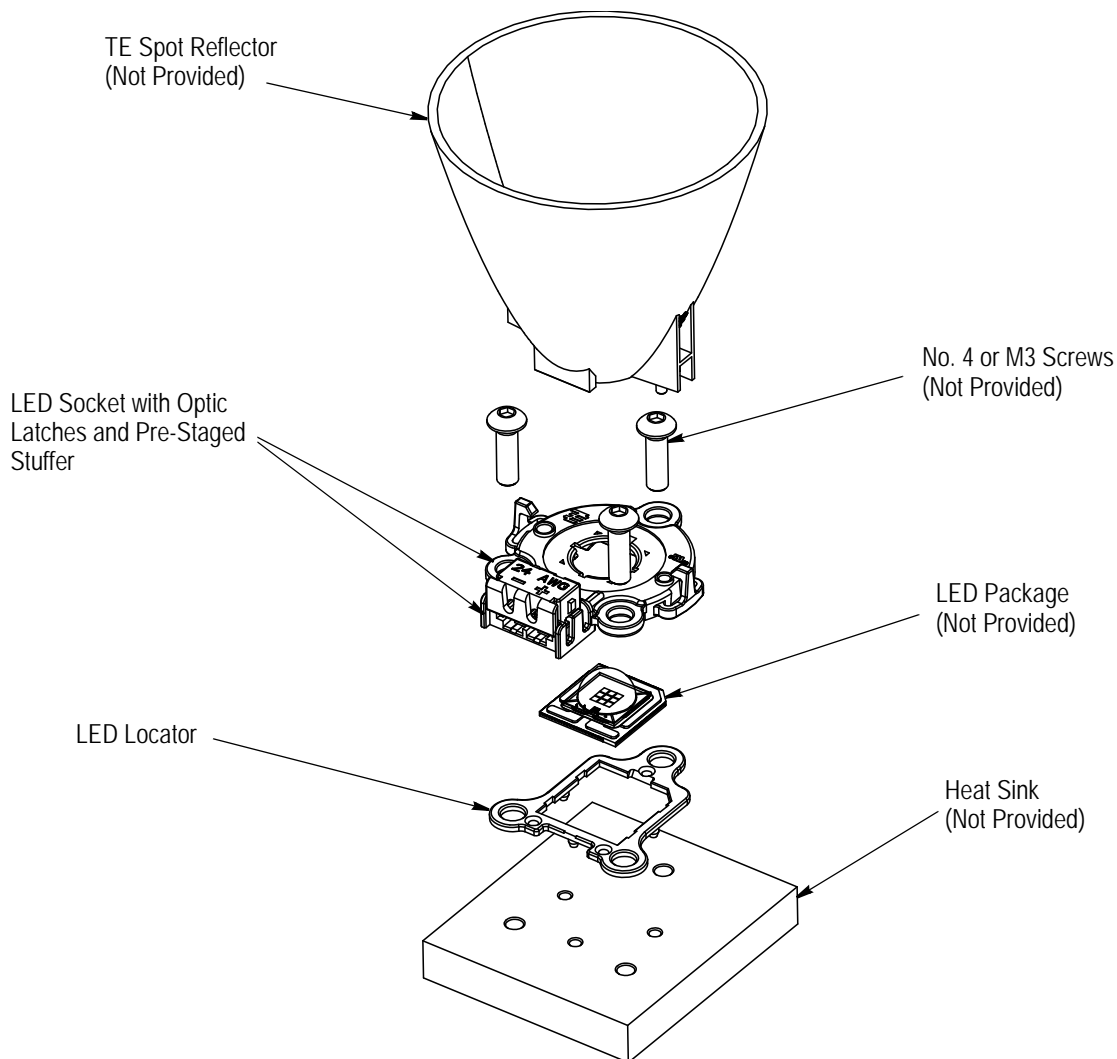

Figure 1
When corresponding with TE Personnel, use the terminology provided in this specification to facilitate your inquiries for information. Basic terms and features of this product are provided in Figure 1.
- Updated artwork in Figures 1, 7, and 11